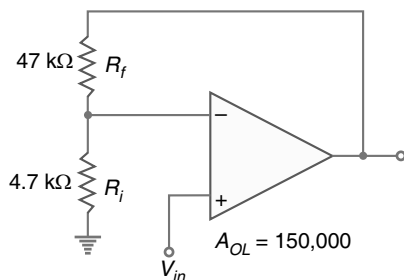

Fig. 23.102
9. Determine the closed-loop voltage gain for the circuit shown in Fig. 23.102.  $[11]$